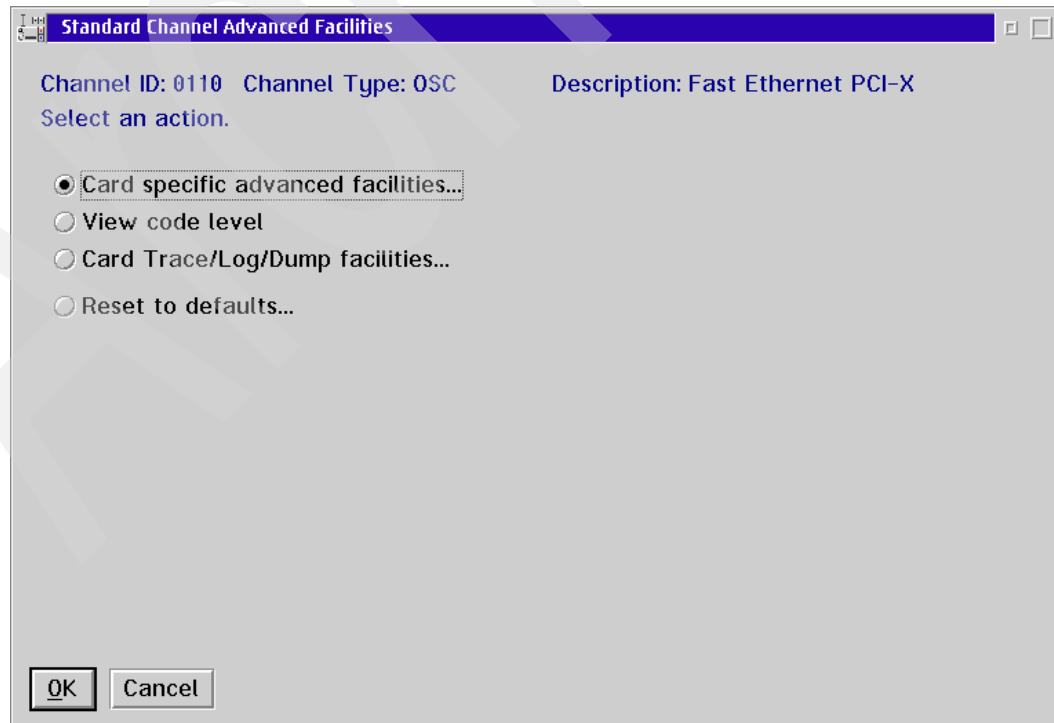

Figure 3-4 Standard channel advanced facilities
3. On the OSA Advanced Facilities PCHID selection panel, select the required PCHID, and click **OK**. The Standard Channel Advanced Facilities panel is displayed (see Figure 3-4).